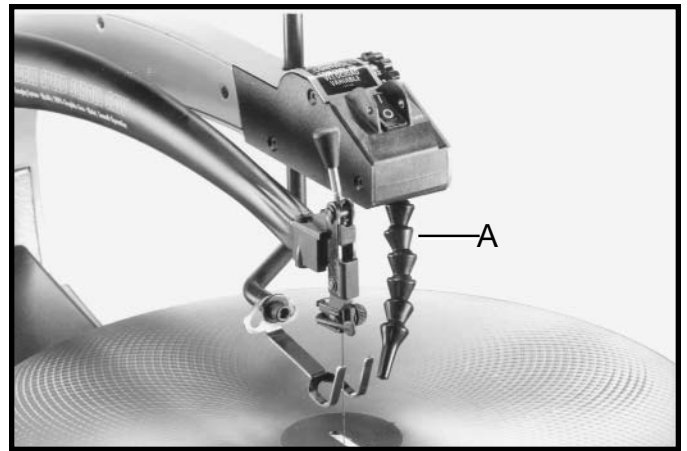

Fig. 18
A dust blower (A) Fig. 18, is provided, and can be moved to direct air to the most effective point on the cutting line.